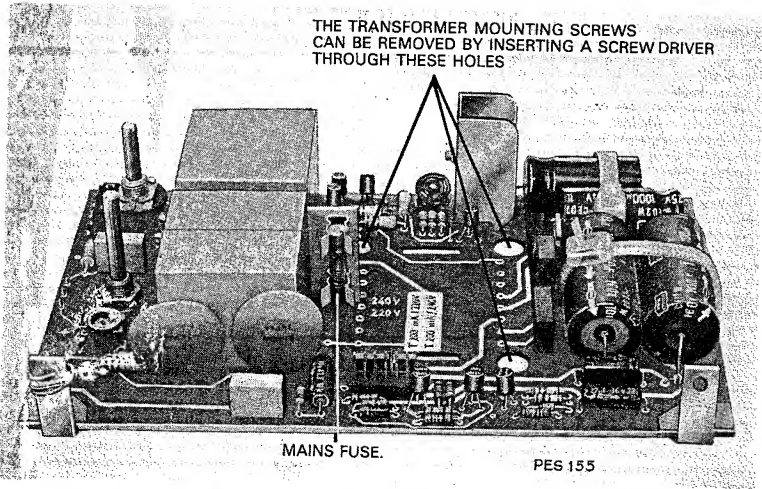

Fig. 6.2 Power supply board
To replace the mains fuse F501 which is located on the power supply board, the top cover should first be removed as described under Sec. 3.2. The mains fuse which is a slow blow fuse, can be removed from its holder, and replaced, if necessary. (See fig. 6.2.).
- Remove the four transformer mounting screws. (See fig. 6.2.).